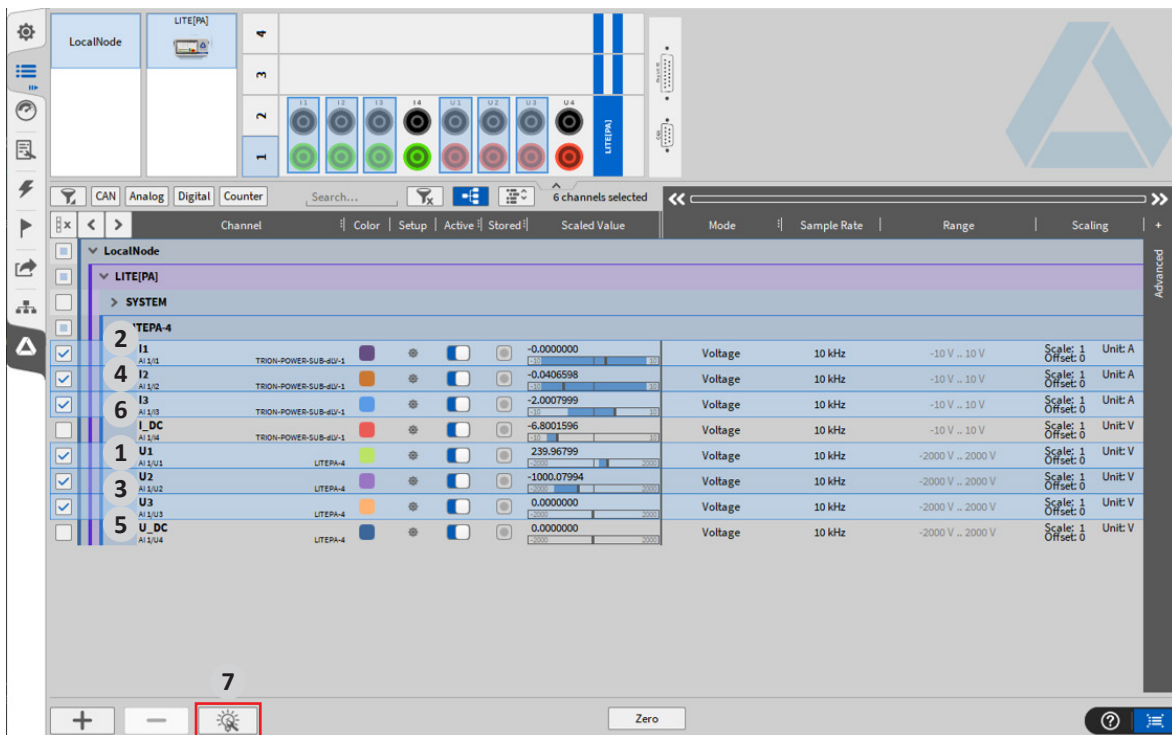

Fig. 21: Create a Power Group with channel pre-selection (1)
5. Select the channels for voltage and current, starting with the first voltage, see ① to ⑥ in Fig. 21, and click on the light bulb symbol at the bottom left, see ⑦ in Fig. 21.